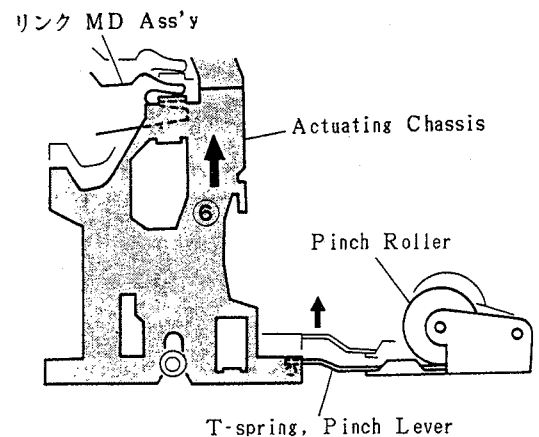

Fig. 23-2
- 2) At the same time of the activation stated in Step 1) above, the Link Ass'y MD pushes against the indicated point of the Actuating Chassis as shown Fig. 23-2 to move in the direction of arrow ⑥, activating the T-spring, Pinch Lever upward. In addition the Arm, Head is pushed by the Actuating Chassis Ass'y, thereby settling to the PLAY mode. (See Fig. 22-3)